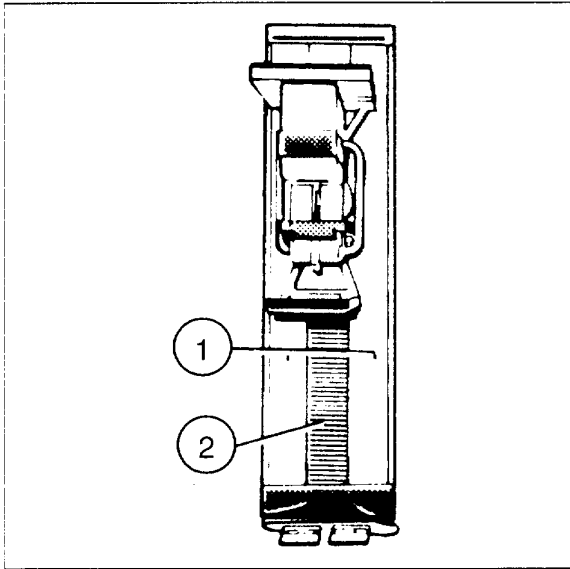

Fig. 2
- Remove both lateral front covers (1/Fig.2) by removing the screws.
- Remove the upper and lower bellows (2/Fig.2) by removing the screws.